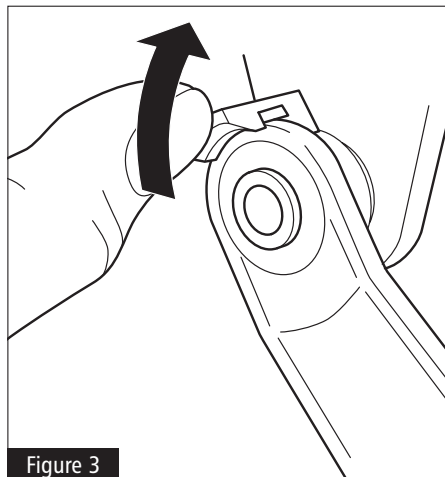

Figure 3
- 2** Remove the Door Stays by locating the pivoting mount at the end of each arm. Push open the retaining clip and slide the arm off the pivot. Repeat for other side. See Figure 3.